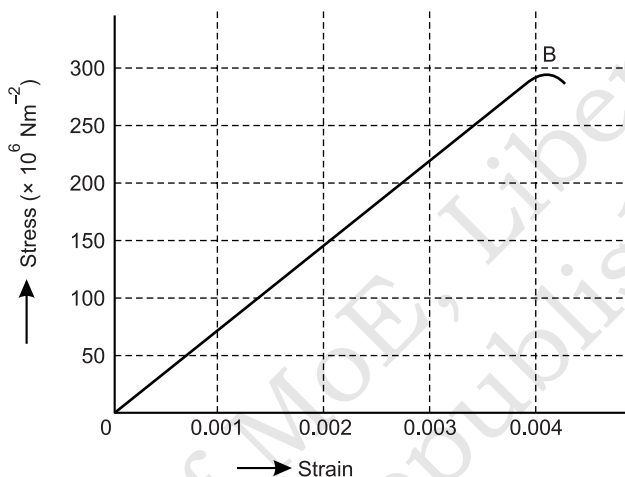

Fig. 6.25. Stress-strain curve
4. Figure 6.25 shows the strain-stress curve for a given material. What are (a) Young's modulus, and approximate yield strength for this material?